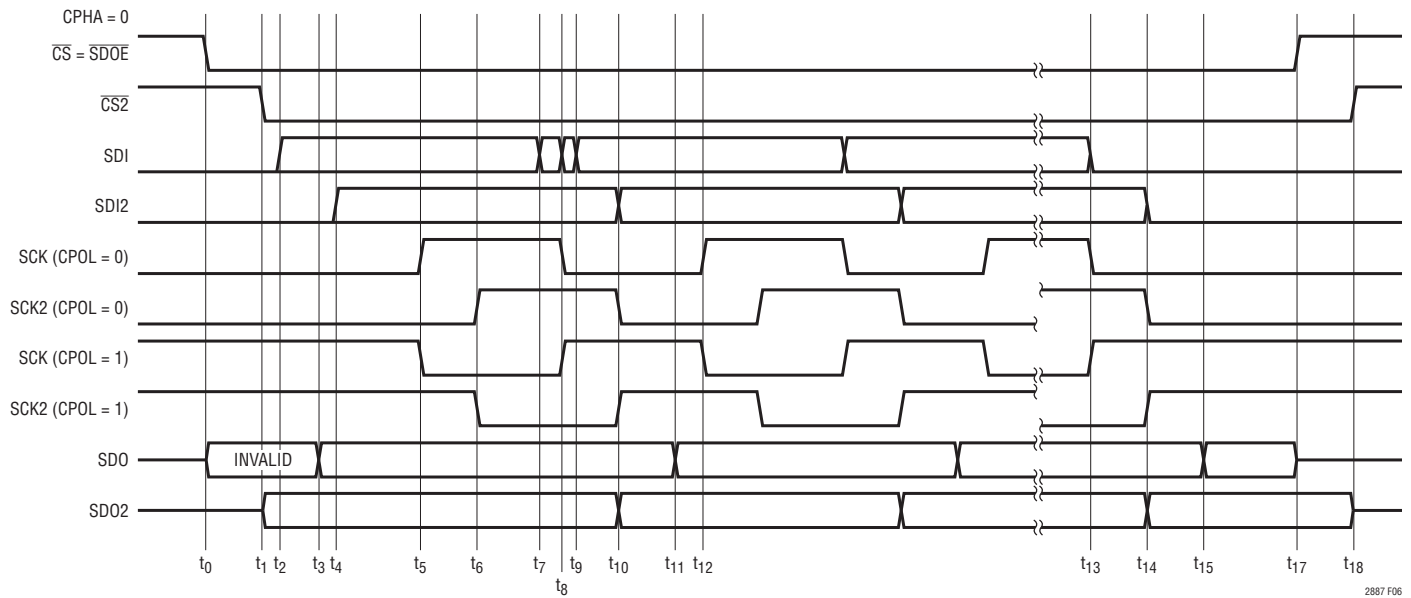
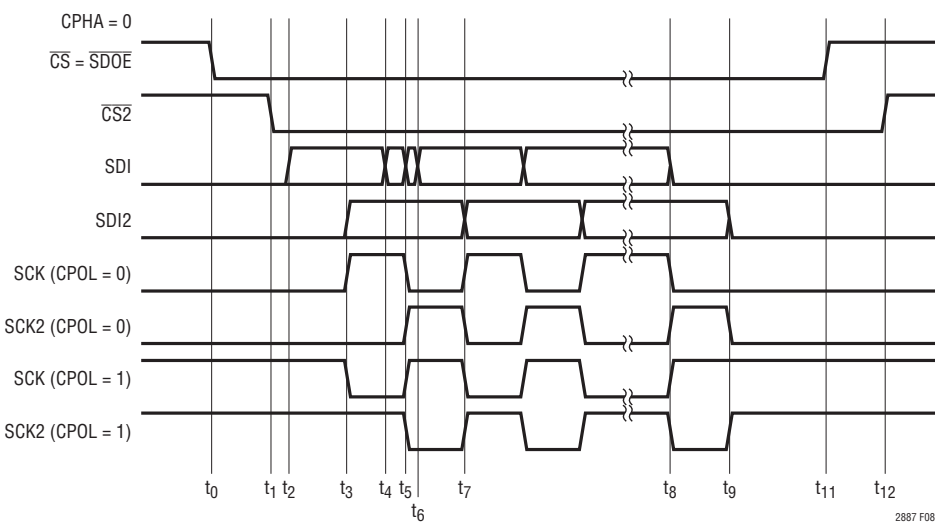

Figure 6. SPI Timing, Bidirectional, CPHA = 0
Figure 8. SPI Timing, Unidirectional, CPHA = 0
The LTM2887-S provides a SPI compatible isolated interface. The maximum data rate is a function of the inherent channel propagation delays, channel to channel pulse width uncertainty, and data direction requirements. Channel timing is detailed in Figures 6 through 9 and Tables 2 and 3. The SPI protocol supports four unique timing configurations defined by the clock polarity (CPOL) and clock phase (CPHA) summarized in Table 1.
The maximum data rate for bidirectional communication is 4MHz, based on a synchronous system, as detailed in the timing waveforms. Slightly higher data rates may be achieved by skewing the clock duty cycle and minimizing the SDO to SCK set-up time, however the clock rate is still dominated by the system propagation delays. A discussion of the critical timing paths relative to Figure 6 and 7 follows.
Maximum data rate for single direction communication, master to slave, is 8MHz, limited by the systems encoding/decoding scheme or propagation delay. Timing details for both variations of clock phase are shown in Figures 8 and 9 and Table 3.
- SDI and SCK set-up data transition occur within the same data packet. Referencing Figure 6, SDI can precede SCK by up to 13ns ($t_7 \rightarrow t_8$) or lag SCK by 3ns ($t_8 \rightarrow t_9$) and not violate this requirement. Similarly in Figure 8, SDI can precede SCK by up to 13ns ($t_4 \rightarrow t_5$) or lag SCK by 3ns ($t_5 \rightarrow t_6$).